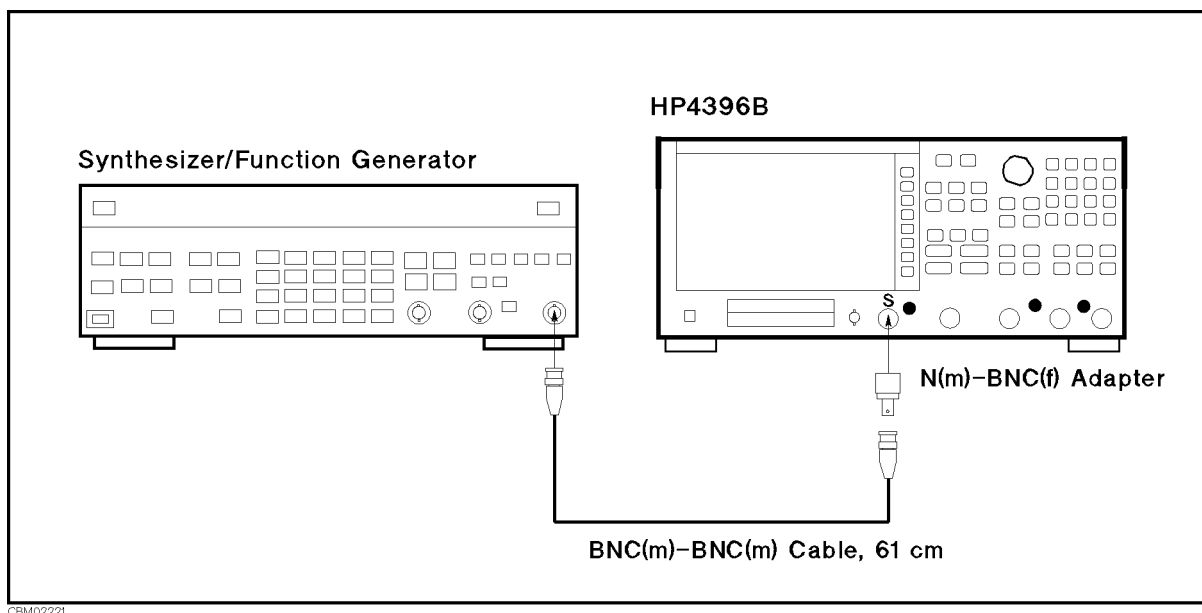

Figure 2-28. Frequency Response Test Setup 3
11. Change the test equipment setup as shown in Figure 2-28.